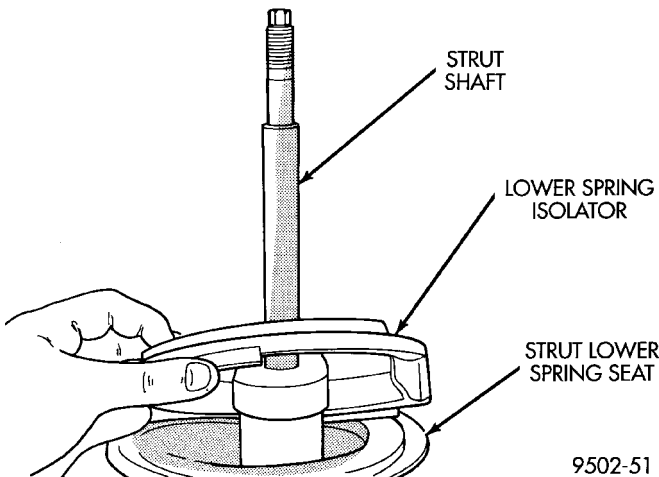

Fig. 34 Coil Spring Lower Isolator
(11) Remove the coil spring lower isolator from the strut assembly spring seat (Fig. 34).
- (1) Install the original or a new isolator on lower spring seat of strut (Fig. 34).